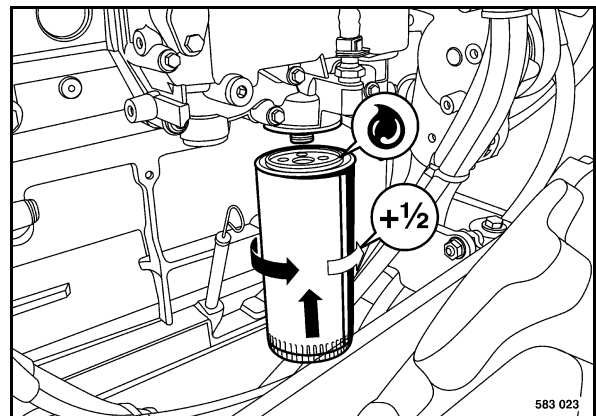

Fig. 139
- Turn the new filter cartridge (Fig. 139) on by hand, until the seal contacts.